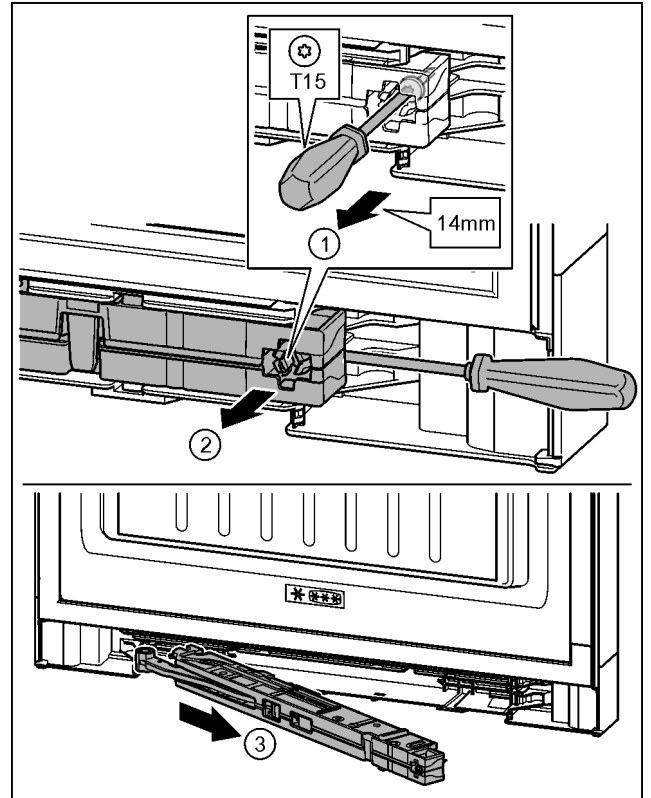

Fig. 19
- ▶ Undo the screw on the soft stop mechanism about 14 mm with a T15 screwdriver. Fig. 19 (1)
- ▶ Insert the screwdriver on the handle side behind the soft stop mechanism. Turn the unit forwards. Fig. 19 (2)
- ▶ Remove the unit. Fig. 19 (3)